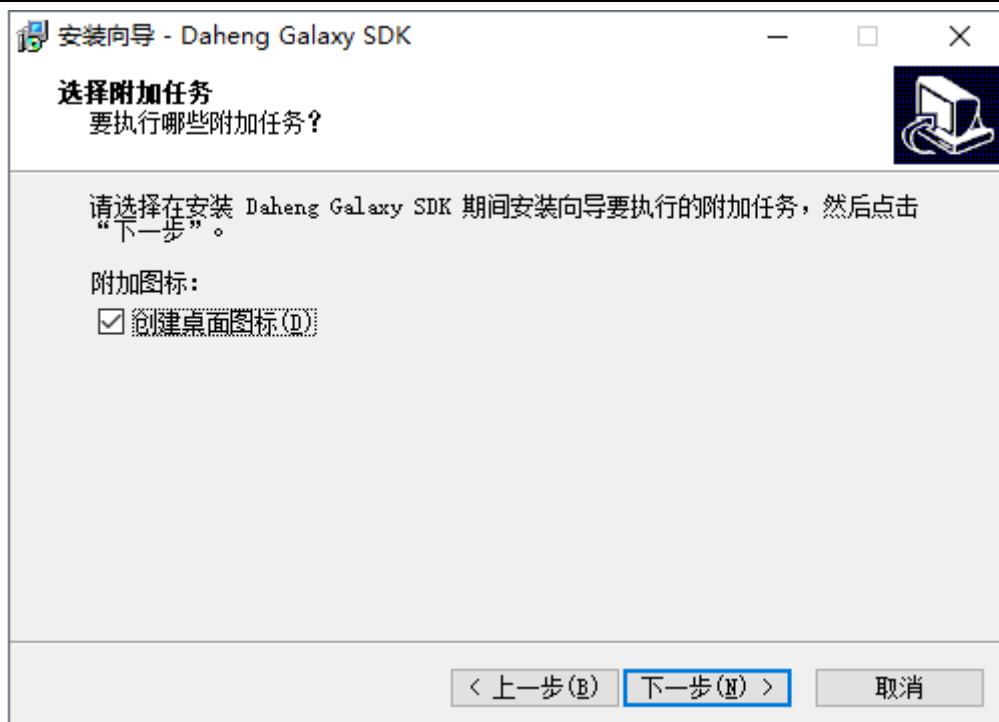

Figure 2.2-18
(20) Click “下一步” select whether to create a desktop shortcut for the driver, as shown in Figure 2.2-18: